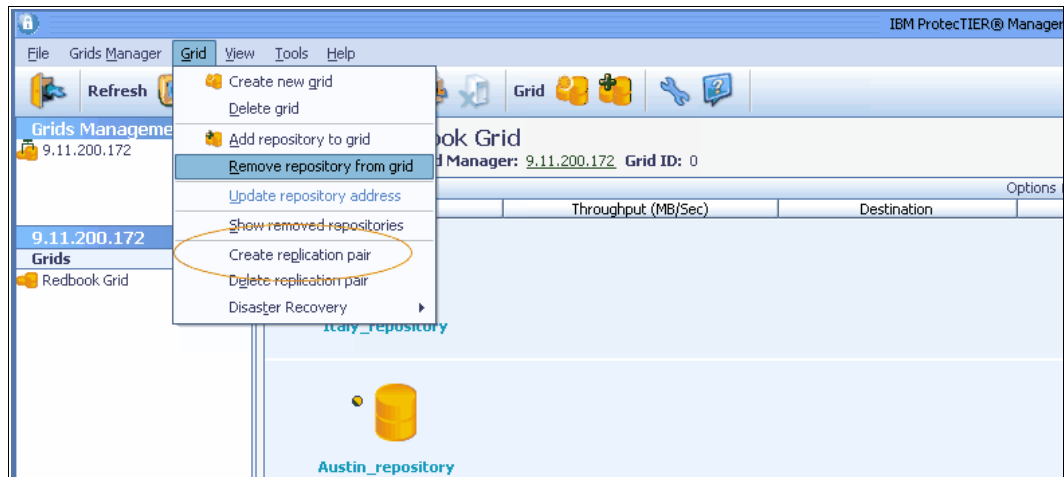

Figure 5-104 Creating a replication pair
1. In the Grid Manager, select **Grid Manager** → **Create Replication Pair** (Figure 5-104).